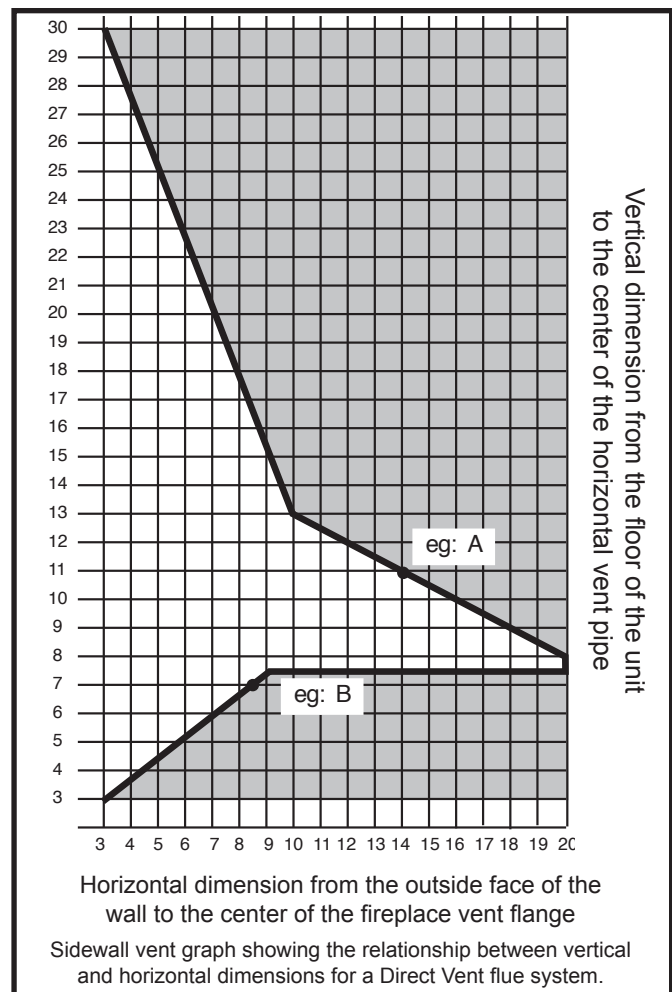

Fig. 13 Sidewall venting graph. (Dimensions in feet)
1. Determine the height of the center of the horizontal vent pipe exiting through the outer wall. Using this dimension on the Sidewall Vent Graph (Fig. 13) locate the point intersecting with slanted graph line.